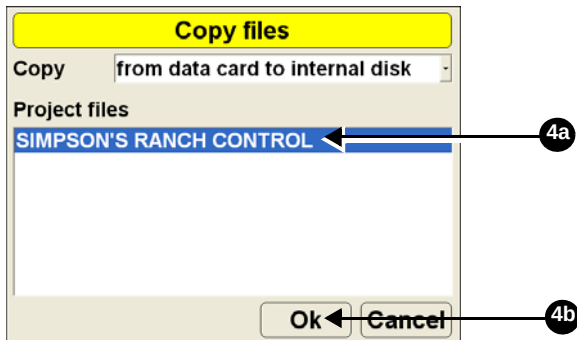

Figure 3-2. Select and Copy File
- Select the file to copy and press **Ok** (Figure 3-2).